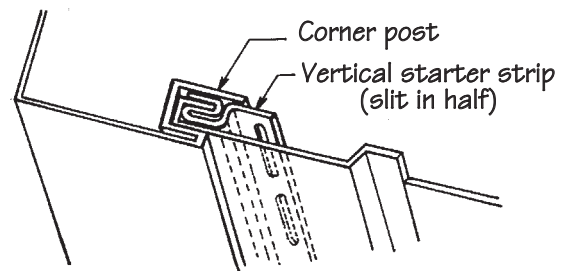

Figure 55.
- Create a vertical starter strip by cutting the nailing hem and adjacent lock off a vertical siding panel. Fasten it inside the receiver channel of the corner post. Be sure this piece is plumb. Leave enough clearance in the pocket of the corner post to allow the siding panel to be attached (Fig. 55).